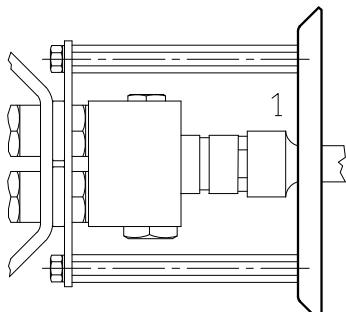

Fig. 8
5.6 Choice of nozzle (Fig. 8)
At this stage of installation the burner is still disassembled from the blast tube; it is therefore possible to fit the nozzle with the box spanner 1) (Fig. 8), fitting the spanner through the central hole in the flame stability disk. Do not use any sealing products such as gaskets, sealing compound, or tape. Be careful to avoid damaging the nozzle sealing seat.